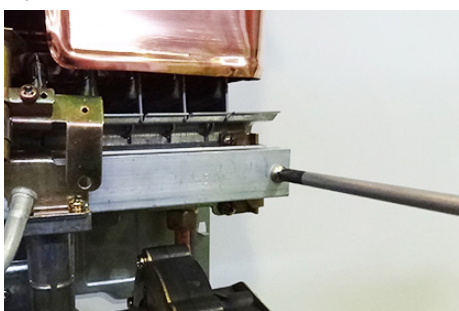

Fig. 12
- Remove the screws that hold the diffuser in place (Fig. 12)